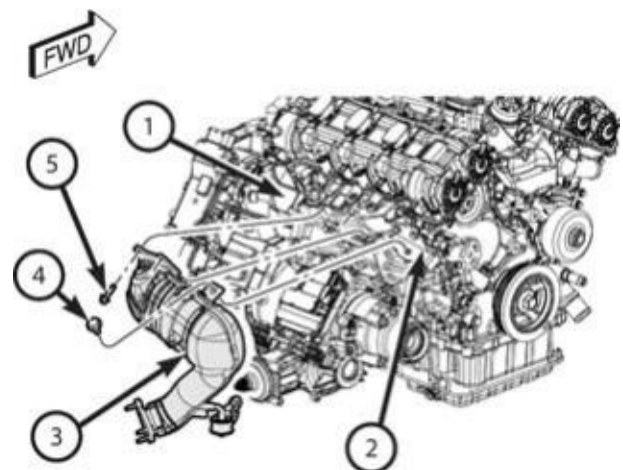

Figure 5– Rear Catalytic Converter and Cylinder Head
12. Remove the catalytic converter to cylinder head upper flange bolts (5) (Figure 5).
15. Position the rear catalytic converter on the retainer and against the cylinder head (Figure 5).